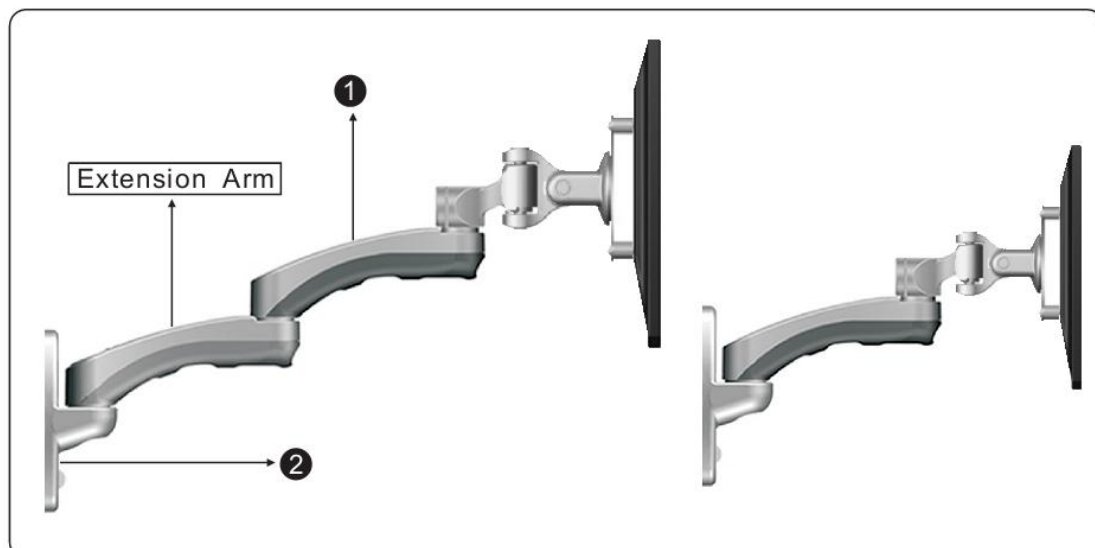

Figure 5-4
6. This product is manufactured and designed to adjust quickly and easily according to your needs. To adjust the height, remove the Extension Arm (1) from Wall Plate (2) followed by reattaching the LCD Arm to the Wall Plate (2) to achieve your desired position (See Figure 5-4).